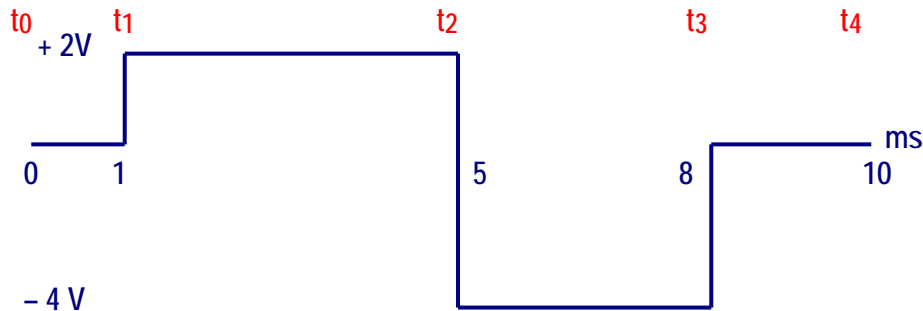

Figure 8-14. Input waveform applied to a Derivative Controller
Figure 8-14 is the intended input signal. Notice that this is the same input signal that you used in the Integral Controller in Lab 7. As you did with the integral controller, you need to draw the expected output indicating its amplitude.
We assign points at the beginning of each segment as shown in Figure 8-14. These points are: t_0 , t_1 , t_2 , t_3 and t_4 .
A close inspection of Figure 8-14 and using equation 8-1 we notice that the derivative controller will react every time the input signal changes direction.
The input waveform shown in Figure 8-14 is applied to a Proportional-Derivative (PD) controller. The derivative controller has an RC constant of 1 ms and a supply of ± 16 V and the proportional controller has a gain of -1 . Test your solution using Multisim and compare your output waveform with the one obtained in Multisim. For your convenience, Figure 8-14 is shown below.